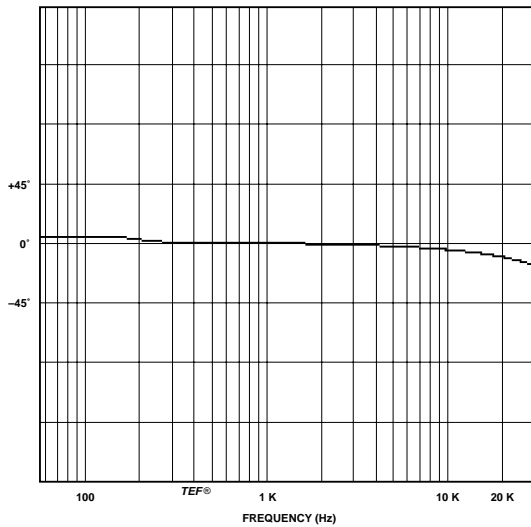

Figure 2.3 Typical Phase Response
**Phase Response:** ±10 degrees from 10 Hz to 20 kHz at 1 watt (see Figure 2.3)..